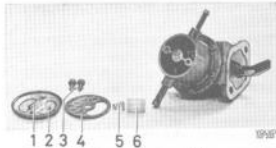

Fig. 2-143. Fuel pump, S.E.V.
1. Remove the cover (1, Fig. 2-143), the spring (5) and the seal (4).
3. Remove the filter (6) and blow it clean or replace it.